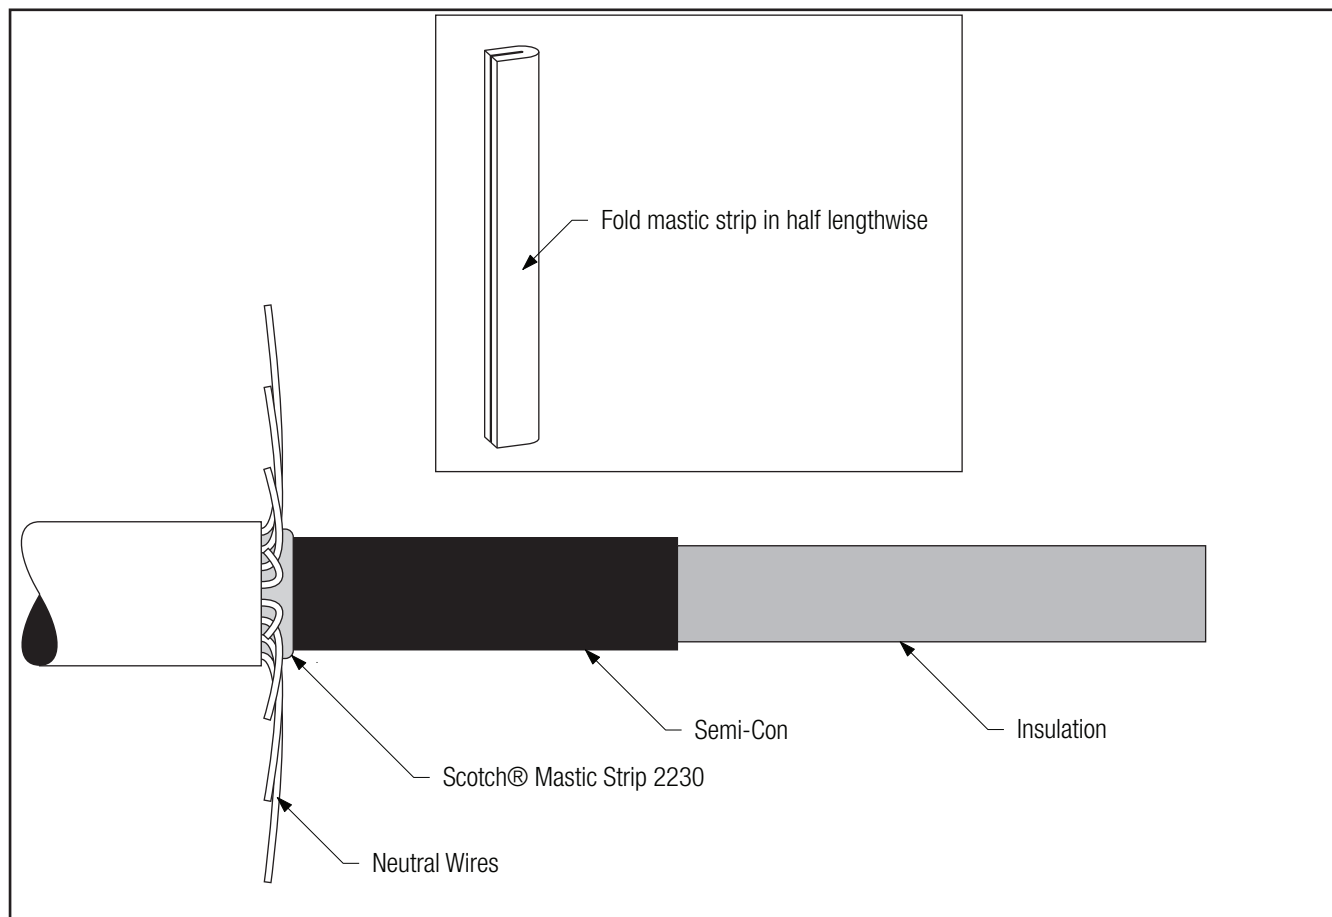

Figure 2
2.4 If using JCN or Flat Strap Cable: Carefully bend the cut neutral wires up and away from the cable semi-con as shown. Fold one Scotch® Mastic Strip 2230 in half lengthwise and apply one wrap only at cable jacket edge under the neutral wires (*Figure 2*).